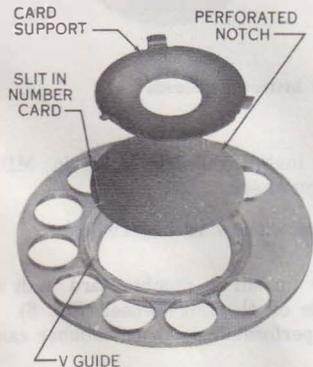

Fig. 8—Method of Placing Number Card in MD Plastic Fingerwheel
- (1) Place window in fingerwheel.
- (2) Line up slit in number card with the "V" guide on the fingerwheel (Fig. 8). Do not remove perforated notch on number card.
- (3) Push number card into place. This will force slit on card over the guide holding the number card in place.
- (4) Press card support into place.